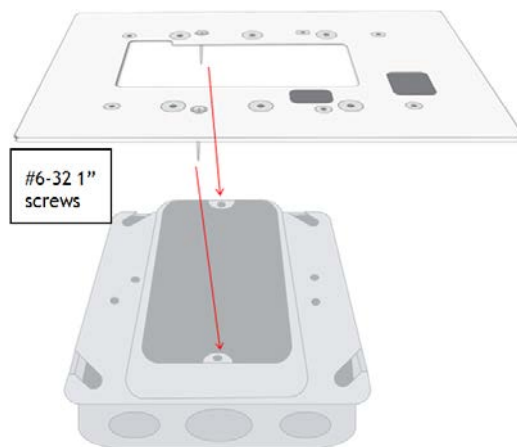

Figure 5: JBOX, Mud Ring, Adapter Plate
Step 9 Level the high voltage Telkonet JBOX adapter plate and mount to the mud ring with two #6-32 1" screws. See Figure 5.